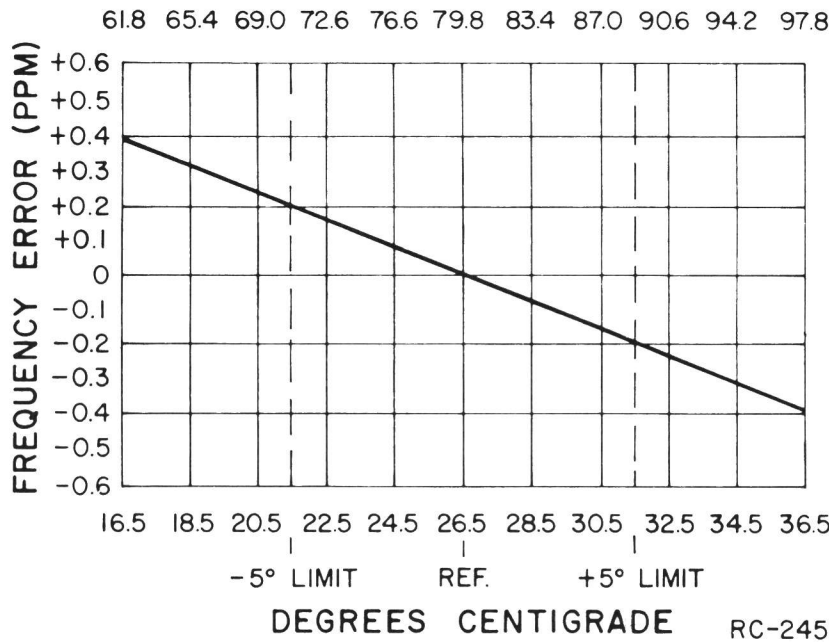

Figure 5 - Frequency Characteristics Vs. Temperature
To Set ICOM frequency using "beat frequency" method, the temperature should be at 26.5°C (79.8°F). If the temperature is not 26.5°C, then offset the "ON FREQUENCY" signal (at the receiver input), as a function of actual temperature, by the FREQUENCY ERROR FACTOR (in PPM) shown in Figure 5.
- 2. Maintain the radio at 26.5°C (±10°C) and offset the oscillator, as a function actual temperature, by the frequency error factor shown in Figure 5.
B. To hold setting error to ±0.35 PPM (which is considered reasonable for 2 PPM ICOMs): Maintain the unit at 26.5°C (±5°C) and offset the oscillator, as a function of actual temperature, by the frequency error factor shown in Figure 5.